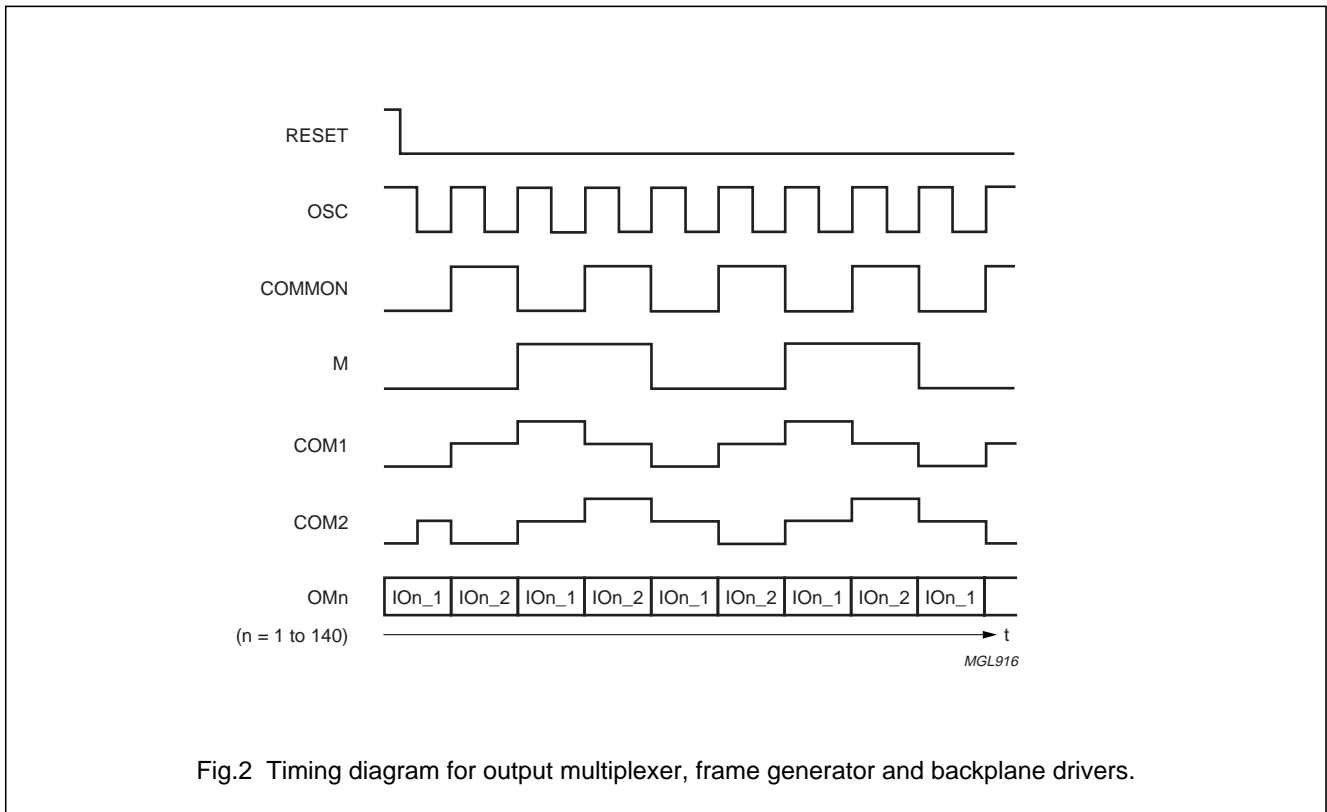

Fig.2 Timing diagram for output multiplexer, frame generator and backplane drivers.
The backplane drivers generate two output signals called COM1 and COM2 which connect directly to LCD backplane 1 and to backplane 2 respectively. These signals have 3 voltage levels called V_{DD} , V_{MID} and V_{SS} , where $V_{SS} = 0\text{ V}$ and $V_{MID} = \frac{1}{2}V_{DD}$. V_{MID} is the LCD bias voltage generated by the LCD bias generator. Figure 2 is a timing diagram for the output multiplexer, frame generator and backplane drivers.
- The backplane driver outputs (COM1 and COM2) are 0 until the first falling edge of OSCI (see Fig.2).